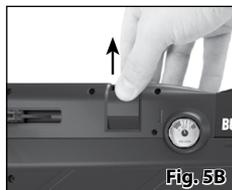

Fig. 5B
4. Remove the shot tray from the breech (Fig 5B).